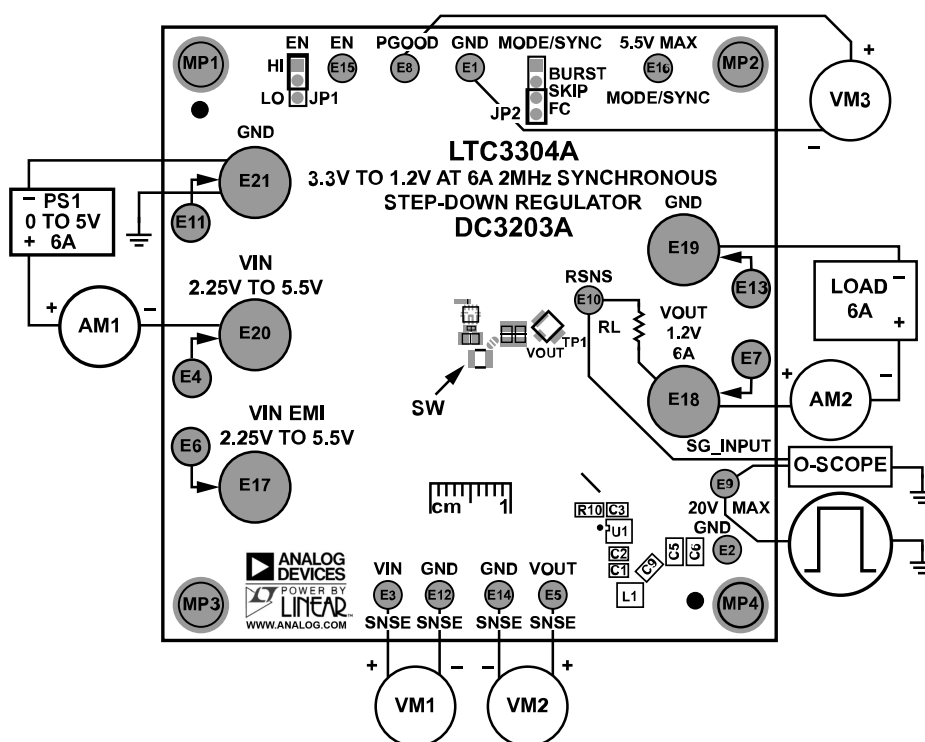
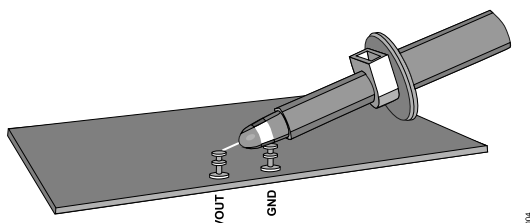

Figure 3. Test Setup for the DC3203A Demo Board
Figure 4. Technique for Measuring Output Ripple and Step Response with a Scope Probe
Demonstration circuit DC3203A is easy to set up and use to evaluate the performance of the LTC3304A. For the proper measurement equipment setup, see Figure 3 and follow the procedure below:
NOTE: For accurate V_{IN} , V_{OUT} , and efficiency measurements, measure V_{IN} at the V_{IN} SNSE and GND SNSE turrets, and V_{OUT} at the V_{OUT} SNSE and GND SNSE turrets as shown as VM1 and VM2 in Figure 3. When measuring the input or output voltage ripple, care must be taken to avoid a long ground lead on the oscilloscope probe. Measure the output voltage ripple by touching the probe tip directly across the output turrets or to TP1 as shown in Figure 4. TP1 is designed for a 50 Ω coax cable to reduce any high frequency noise that might couple into the oscilloscope probes.
4. Connect an oscilloscope voltage probe as shown in Figure 4 in parallel with VM2. Set Channel to AC-coupled, voltage scale to 20 mV and time base to 10 μ s. Observe the V_{OUT} ripple voltage.
12. To test the transient response with a base load, add the required resistor to produce a minimum load between V_{OUT} and RSNS turrets (R_L shown on Figure 3). Note that the total load resistance is R_L plus R_8 (100 m Ω).